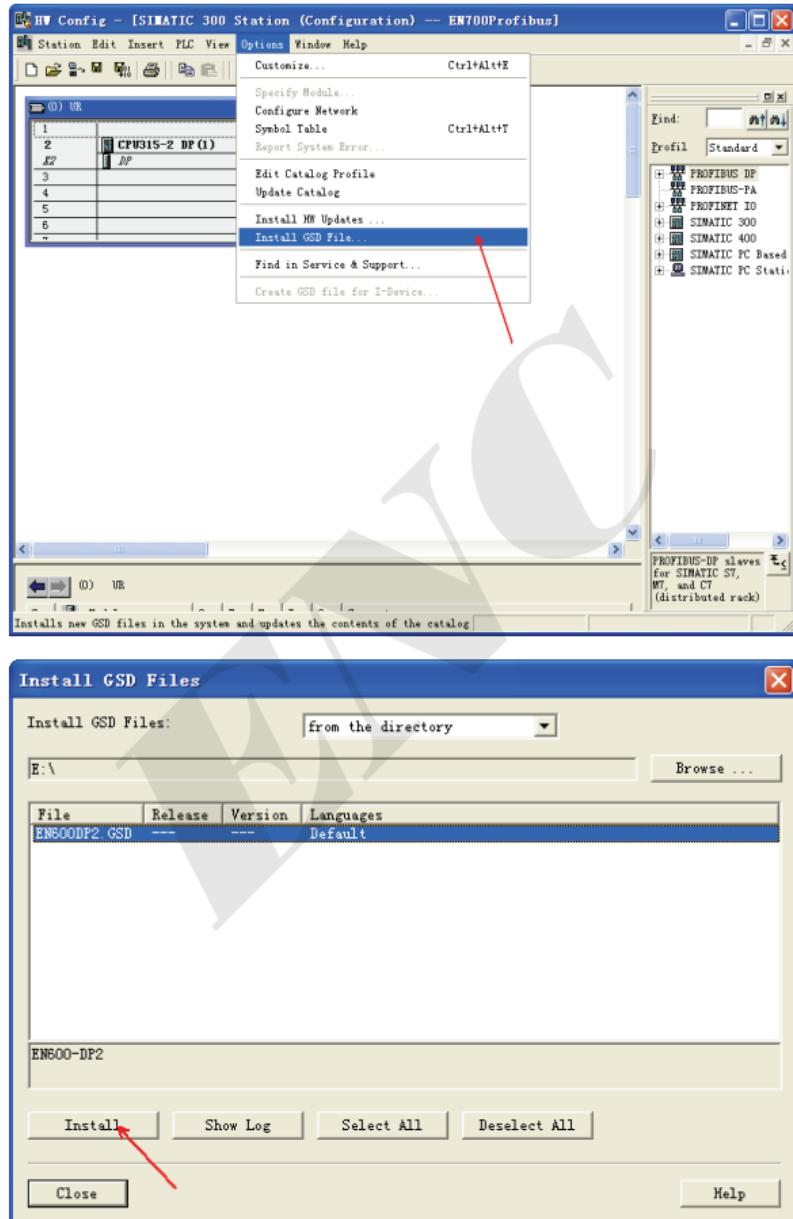

Fig.3-7
(2) Select "hardware", double-click and enter the hardware configuration
(3) Install the EN600DP2.GSD file. As shown in the Fig.3-7.